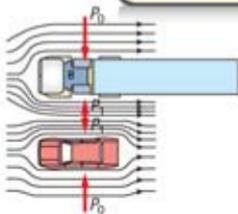

Figure 1
- Figure 1 shows two vehicles moving with the same velocity and producing two different pressures, P_0 and P_1 .
- Why is the situation of the two vehicles shown in Figure 1 dangerous?